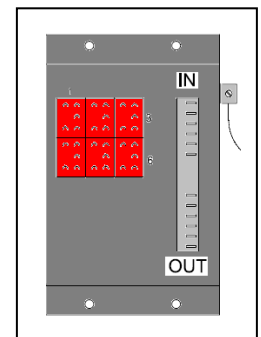

Fig. 4
**1.6.1** Punch incoming copper pairs onto the "Out" side of the available pins of the 6-pair BIX-type solid state protector block. See Figure 4. The "Out" side of the protector block always "points" to the world outside of the HVI, be it in the substation (Control House) or in the network (PSTN). The pre-installed protector block is pre-connected to the ground bar installed on the backboard. Refer to Section 1.2 for notes on grounding.